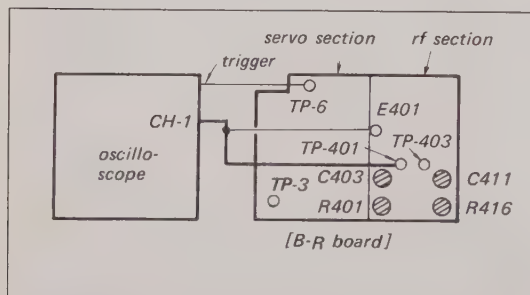

Fig. 8-1. Video head resonance and damping adjustment test setup
1. Connect the scope to TP-401 on the B-R (R-F) board. See Fig. 8-1.
5. Connect the scope to TP-403 on the B-R (R-F) board. See Fig. 8-1.